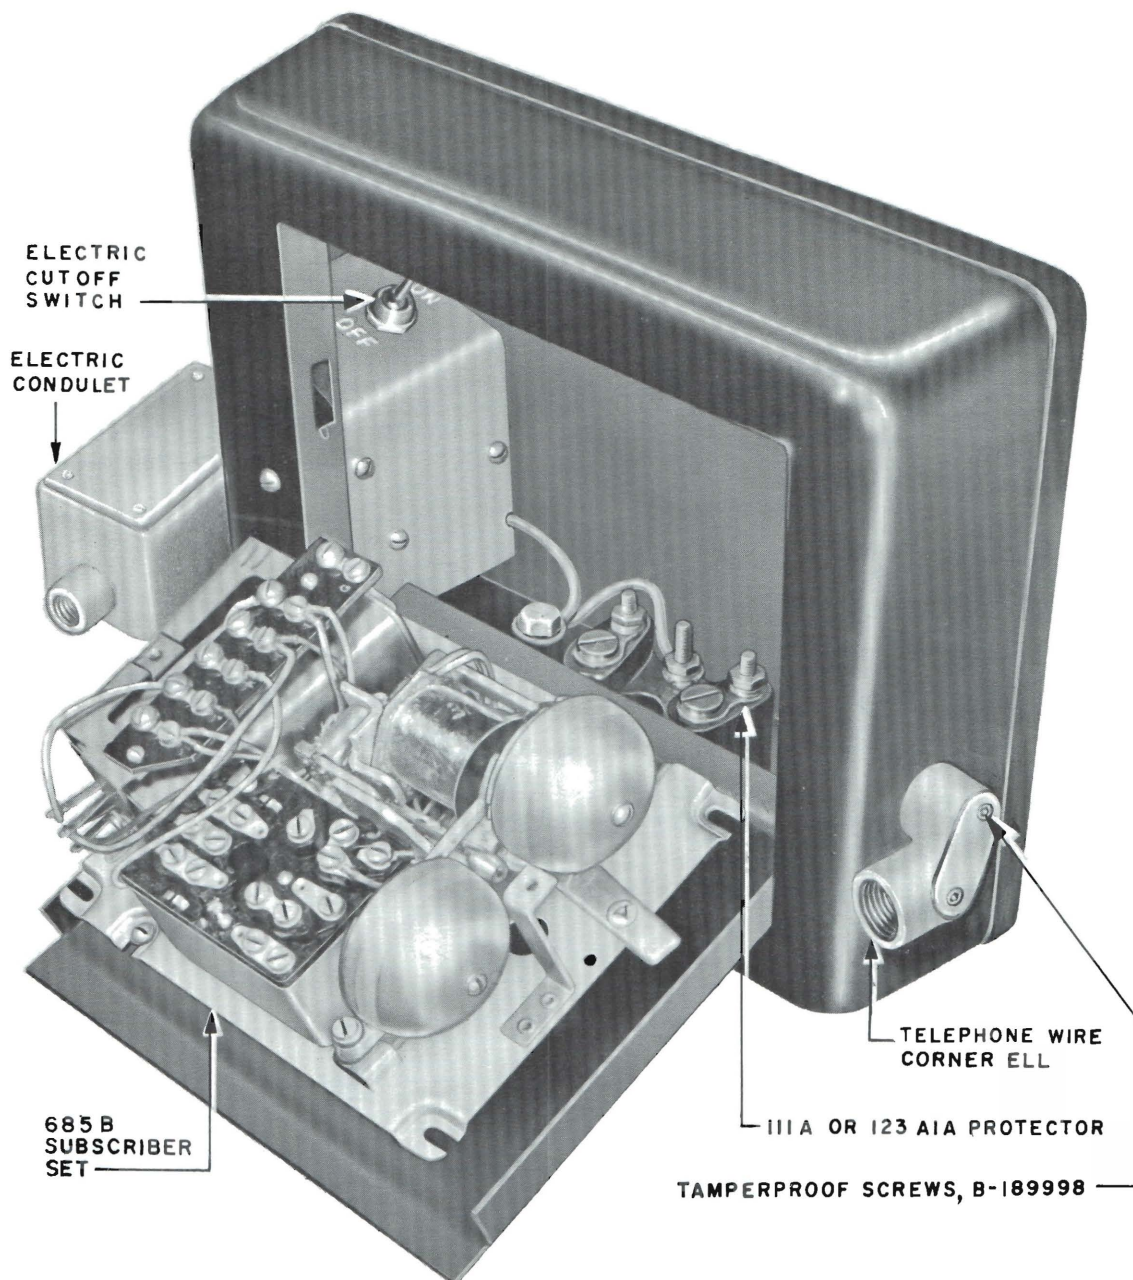

Fig. 12 — Subscriber Set Housing Assembly
3.08 Telephone service enters through conduit which connects to corner ell on right side of subscriber set housing. Tamperproof screws are used to secure the cover on the telephone wire corner ell. A station protector is provided in the housing for wire termination (Fig. 12).